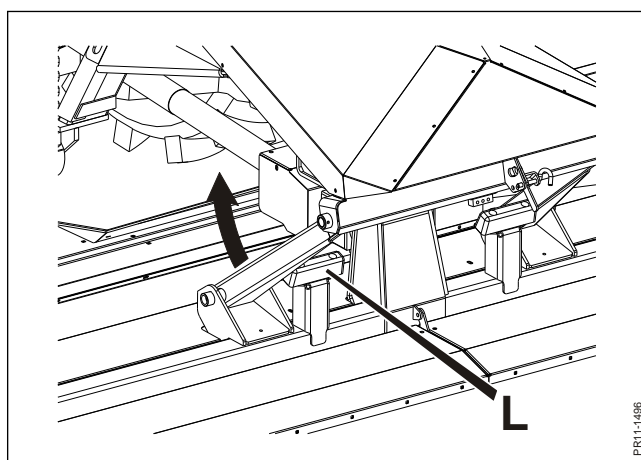

Fig. 3-3
**Fig. 3-3** The cutting unit can move about 550 mm vertically in relation to the headstock. It is the hydraulic cylinder of the machine which limits the movement downwards while a mechanical rubber stop **L** limits the movement upwards.